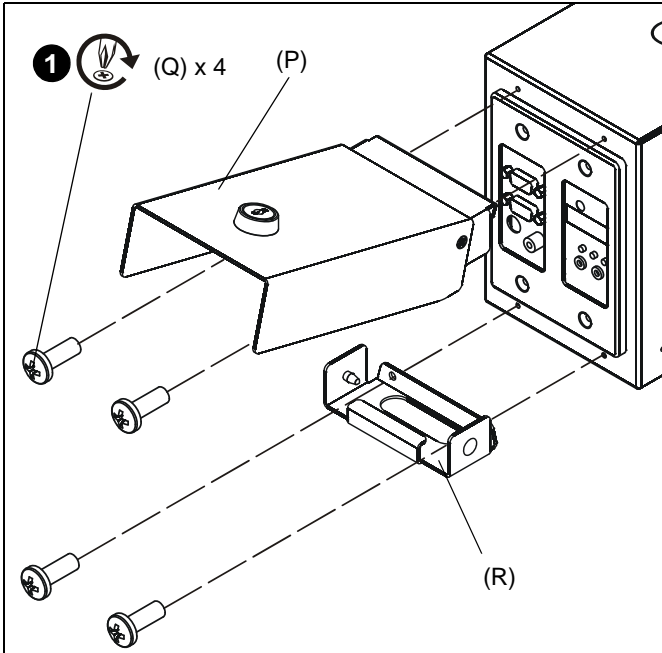

Figure 8
1. Install four #6-32 x 3/8" Phillips pan machine screws (Q) through holes on electrical box cover (P) and lower bracket (R). (See Figure 8)